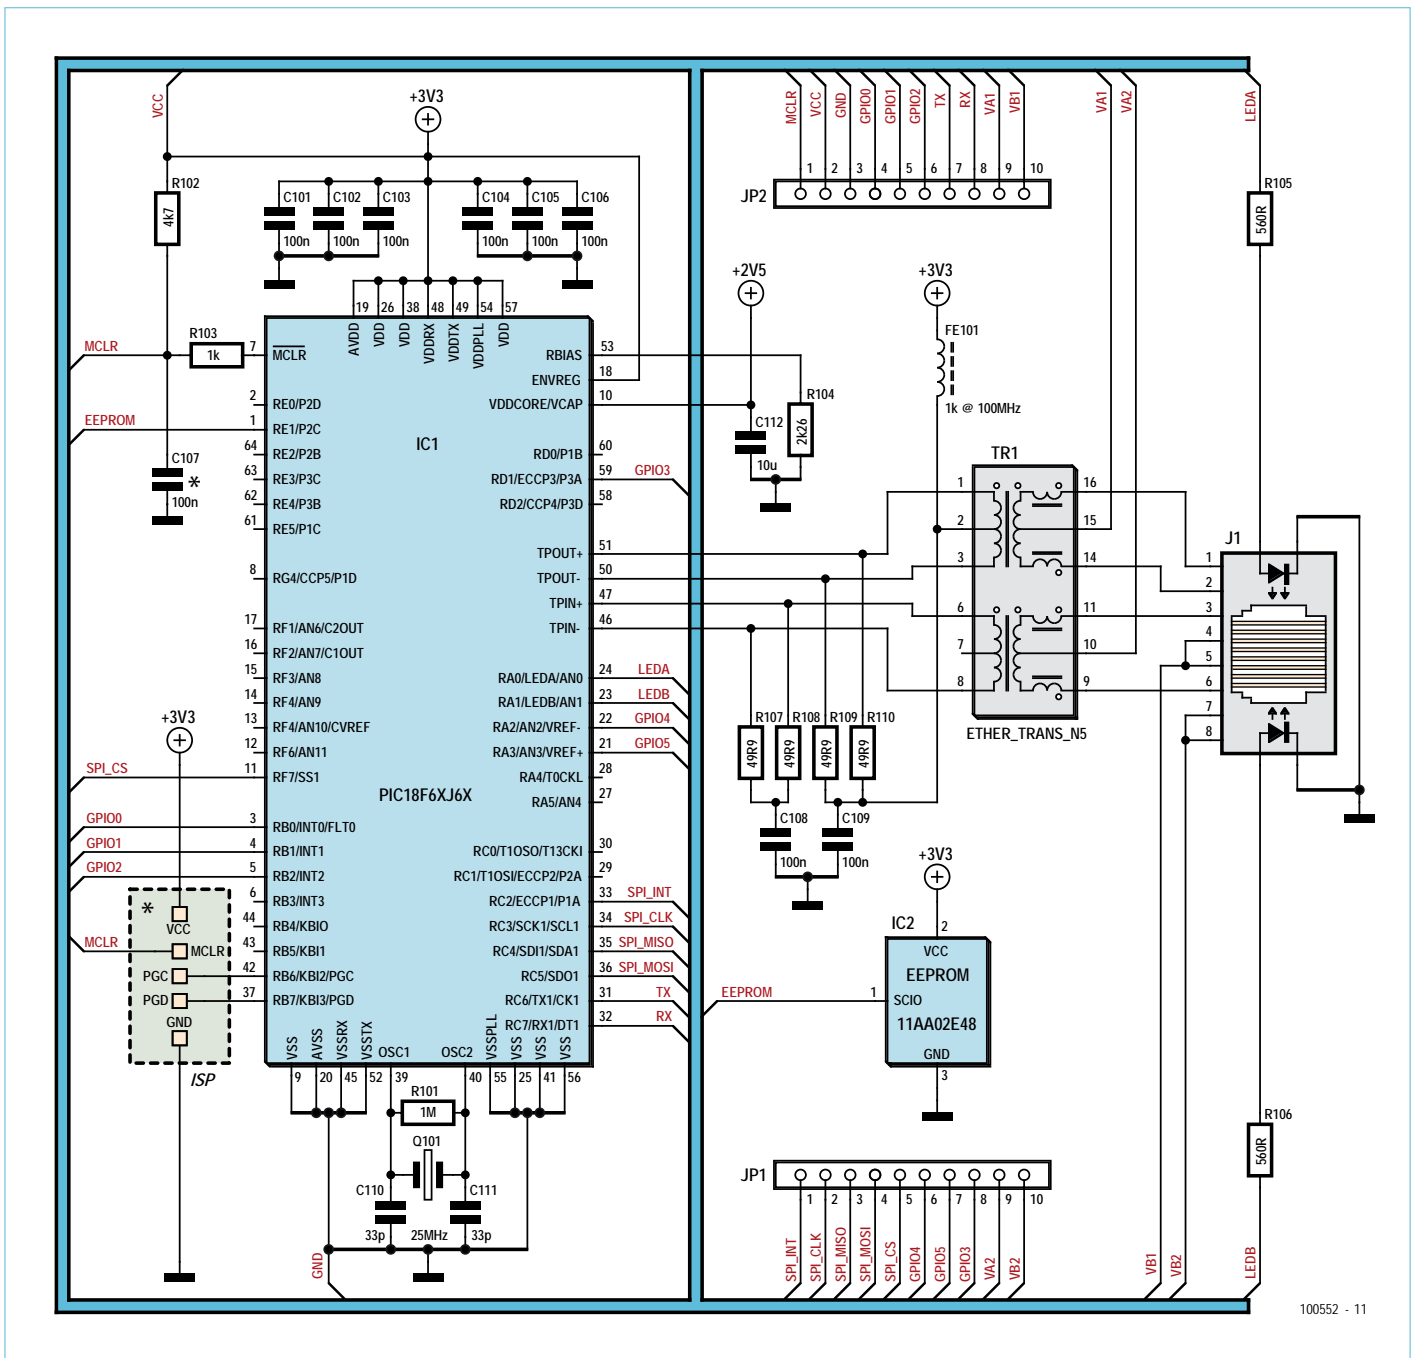

Figure 1. Circuit diagram showing the PIC microcontroller, transformer and network socket.
**Figure 1** shows the circuit of the module. At the heart of the unit is a Microchip PIC18F67J60. This device is one member of a range of microcontrollers that include a 10BASE-T Ethernet transceiver. Most of the circuitry required is provided in the device and only a few external components (including a connector!) are needed to connect to a network.